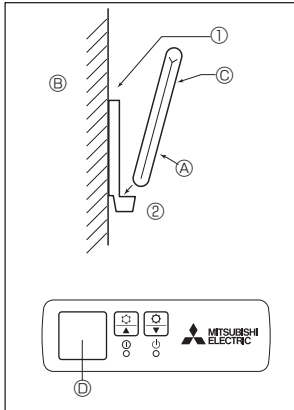

Fig. 6-2
2) Installation method (Fig. 6-2)
① Attach the remote controller holder to the desired location using 2 tapping screws.
② Place the lower end of the controller into the holder.